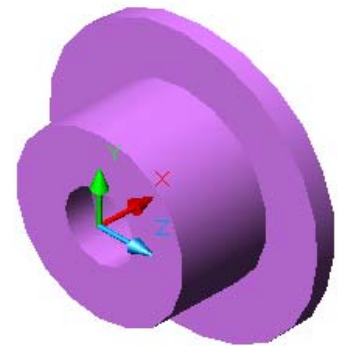

Figure Step 10
Step 10 Turn off layer Construction and Model and shade your model. Your model should now appear as shown in Figure Step 10.